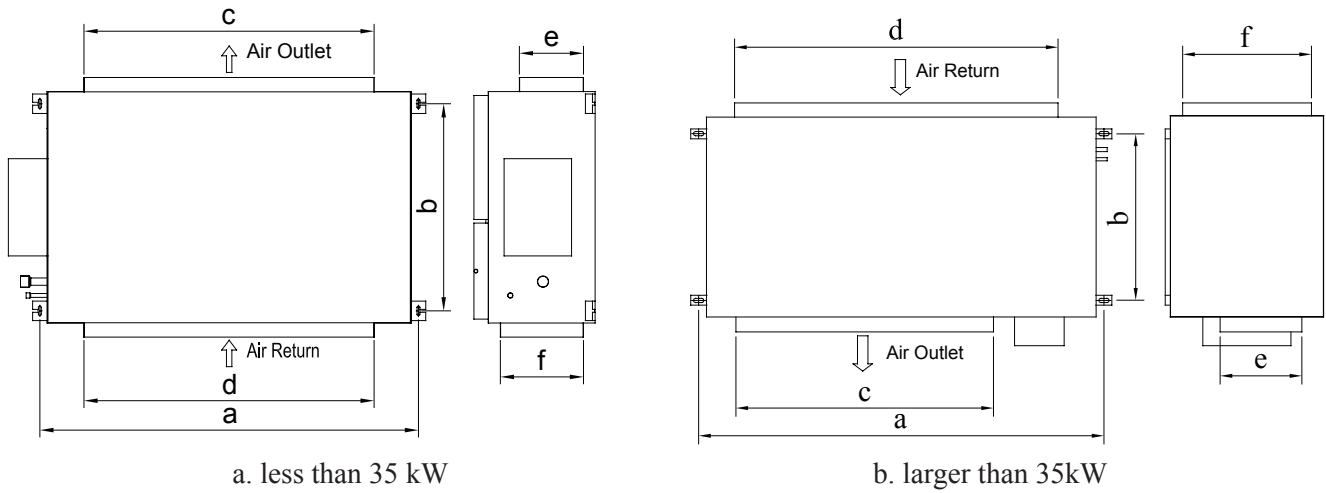

Fig. 19 Indoor unit installation position and dimension
7.2.1 The dimensions of installation hole and the intake/outlet port are shown in Fig. 19 and Table 1.
7.2.2 Main body of the indoor unit The indoor unit should be installed horizontally and the demand of installation space is shown in Fig. 19. To install an indoor unit needs 4 hanging rods, and each hanging rod should at least withstand four times of the unit's weight.
For easy drainage of the condensation water, the should be installed with a downward gradient. To avoid the condensation, the connection pipe joint should be insulated with thermal insulation material. A water seal should be employed as shown in Fig. 19 and the height of the water seal could be determined by the pressure of the drain hose.